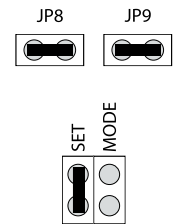

Figure 12
4. Set the jumpers on JP8, JP9 and SET pins. See Figure 12 for correct jumper position.